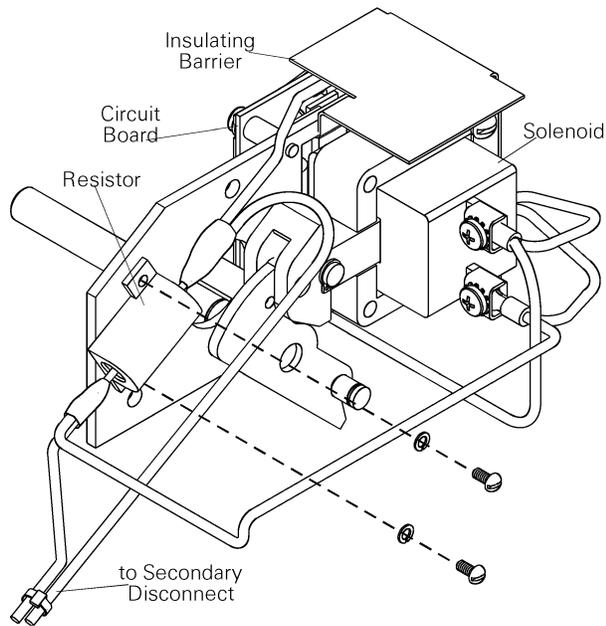
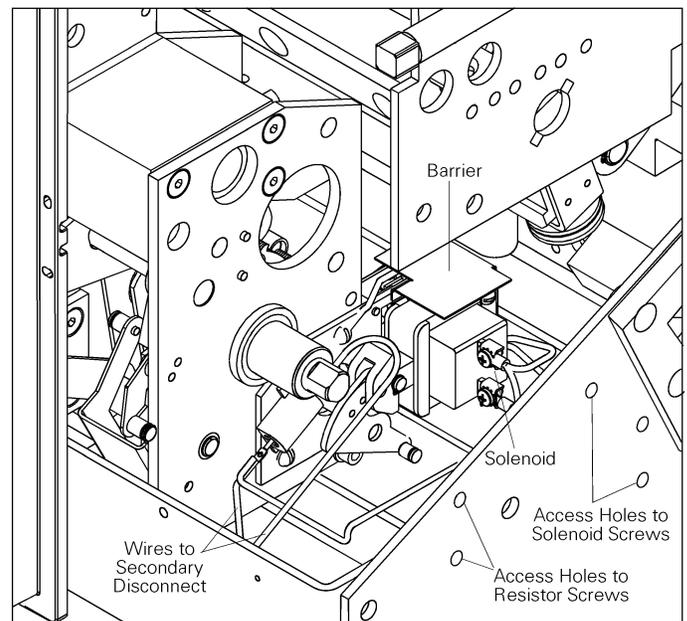

Figure 58. Attaching or removing the resistor.
Figure 59. Remote Close installed in the breaker, showing the locations of access holes in the breaker side plate.
3. Remove the two screws and lock washers securing the resistor to the mounting plate, as illustrated in Figure 58. Two access holes in the side plate, indicated in Figure 59, may be useful for inserting a screw driver to loosen the screws.
6. Remove the two screws C, lock washers, and spacers attaching the solenoid to the mounting plate, then remove the solenoid. Two access holes in the side plate, indicated in Figure 59, may be useful for inserting a screw driver to loosen screws C.
4. Slide the solenoid underneath the insulating barrier, then attach with two screws C and lock washers through the slots in the barrier, with the two spacers between the solenoid and the mounting plate. Two access holes in the side plate, indicated in Figure 59, may be useful for inserting a screw driver to tighten screws C. Slide the tab on top of the barrier into the window in the mounting plate.
5. Attach the resistor to the mounting plate with the two screws and lock washers provided, as shown in Figure 58. Two access holes in the side plate, indicated in Figure 59, may be useful for inserting a screw driver to tighten the two screws.
7. Connect the two leads with circular lugs from the circuit board to the solenoid screw connectors, as shown in Figure 59.